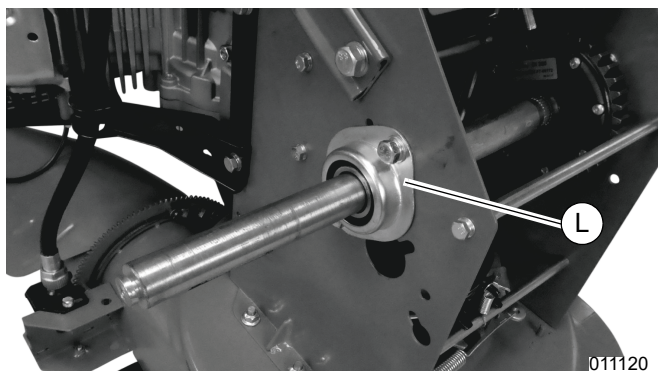

Figure 4-24. Wheel Bearing Assembly
9. See Figure 4-24. Remove the two bolts, lock washers, flat washers, and locknuts securing left side wheel bearing assembly (L) using two 13mm wrenches.